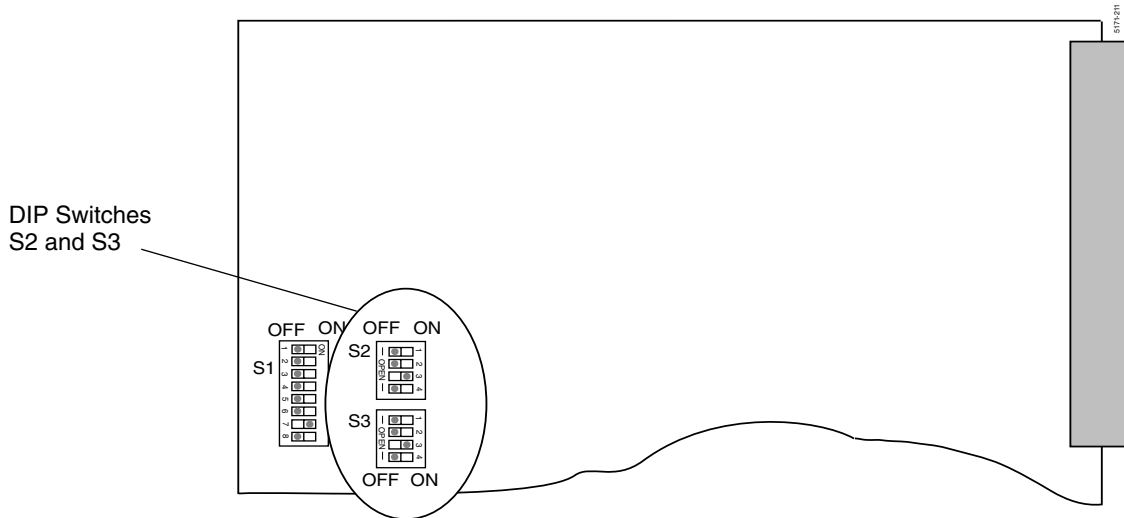

Figure 2-72. Diplexer Output Module Audio Gain Switches S1 & S2 Locations
- To set the Diplexer *Output* module gain, follow Steps 1 through 3 using the Output module (see Figure 2-72 to locate DIP switches 2 and 3) instead of the Input module and substituting Table 2-13 for Table 2-12.